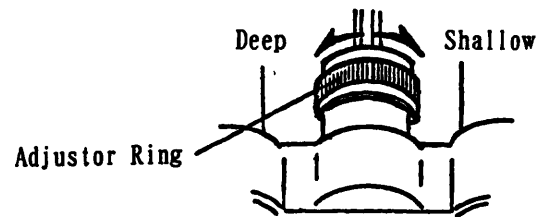

Fig. 7
- (a) Adjusting the driving depth :- The size piece and depth adjusting ring are used to adjust the depth to which screws may be driven. The adjustor ring may be rotated to shorten or lengthen the guide pole stroke (see fig.7). Rotating the adjustor ring to the right results in a shallow drive, while rotating to the left gives a deeper drive. The distance the bit extends past the size piece, minus the screw recess depth (approx. 3mm[0.12"]), is the depth to which screws will be driven. For example, if the head of the screw is required to be flush with the work surface, the bit should extend about 3mm(0.1) beyond the size piece when the feeder block is fully depressed.